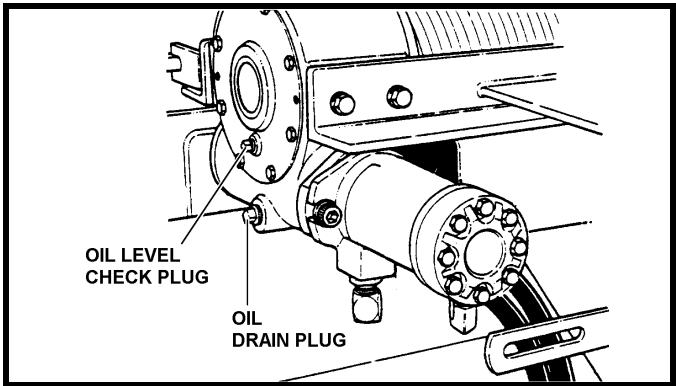

FIGURE 3.4
- 3.6** The self-locking, worm-driven winch is powered by its own hydraulic motor attached directly to the winch input shaft. See Figure 3.4.
CHECK OIL LEVEL IN WINCHES BEFORE ANY OPERATION. FILL TO PROPER LEVEL WITH REQUIRED GEAR LUBRICANT AS NEEDED. REFER TO FIGURE 3.4 AND SECTION V, MAINTENANCE FOR PROPER PROCEDURES.